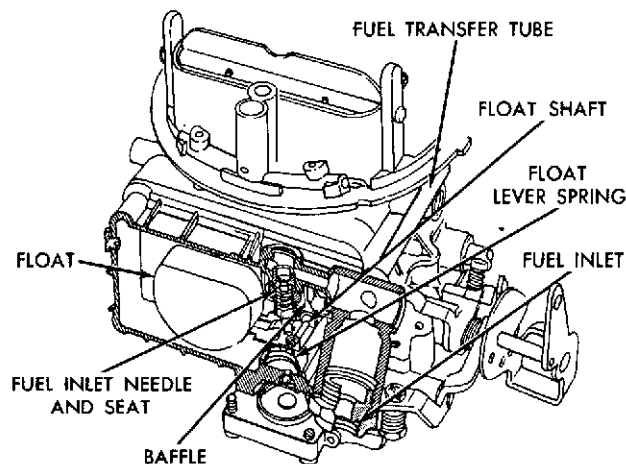
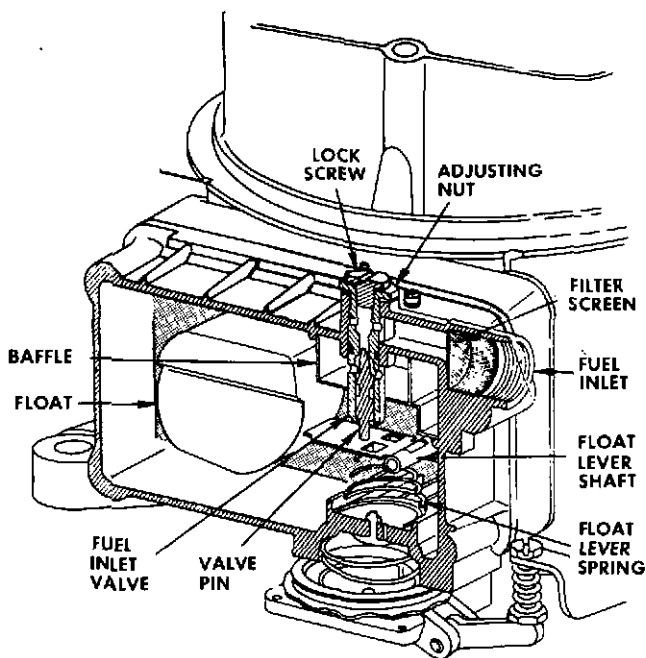

FIG. 4 Fuel Inlet System
FIG. 5 Fuel Inlet System
5. Remove the distributor from the press. Install the collar retaining pin (Figure 6) and the gear retaining pin (Figure 4).
Many different types of floats have been used. Early production used side hinged rectangular brass floats. There were two different versions of this float. Later production used a half moon brass float (Figure 4) or a nitrophyl (cellular plastic material) float (Figure 5).